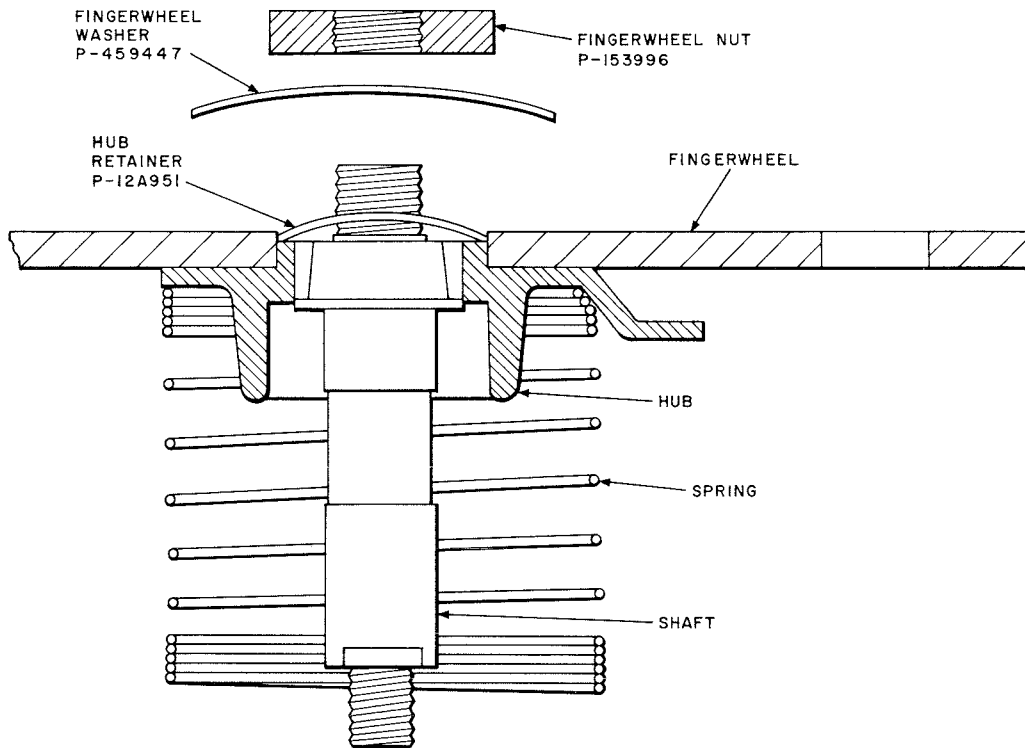

Fig. 13—Dial Hub Retainer and Spring Washer
**3.20** If the fingerwheel is removed for any reason, fingerwheel washer P-459447 (if not already present) shall be placed between the fingerwheel and the fingerwheel nut, (Fig. 13) except when a plastic fingerwheel is used on 5-type dial.
**3.21** If the fingerwheel is removed from a 6- or 7-type dial of early manufacture, install a P-12A951 hub retainer (Fig. 13) to prevent the motor spring and hub assembly from jumping out of its proper position. (Replace dial if this occurs.) Dials of later manufacture (identified by a black finish fingerwheel nut) have either been equipped with a retainer or the hub has been staked on the shaft.